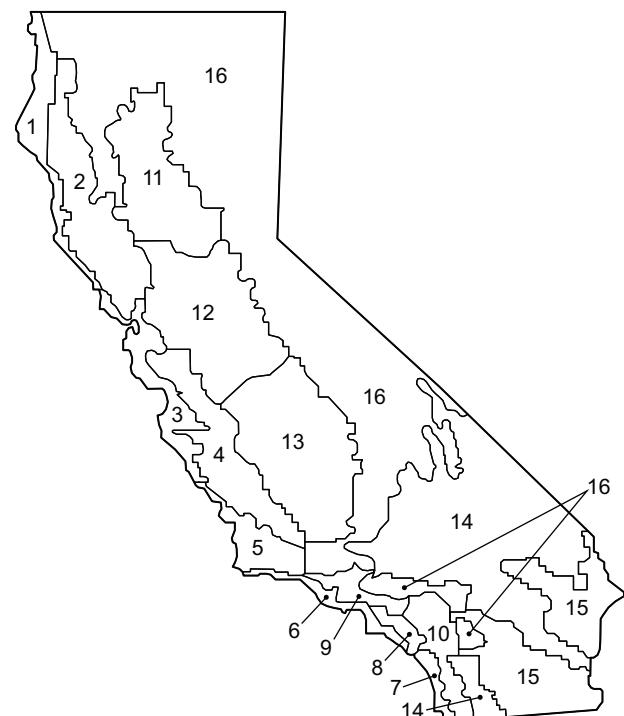

Fig. 82 — California Title 24 Zones
- See Fig. 82 for map of California Title 24 zones.